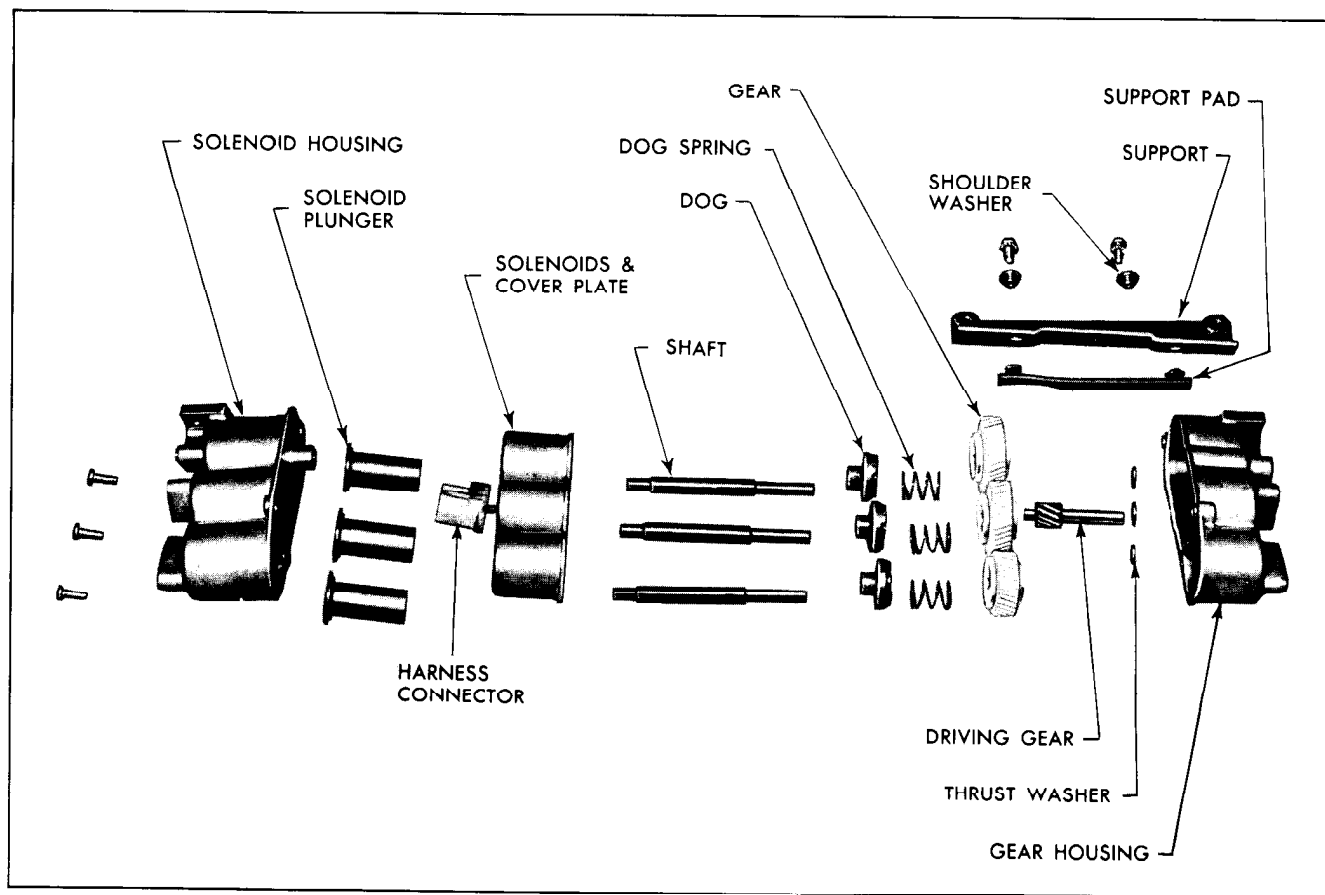

Fig. 17-75 Six Way Seat Transmission Assembly
3. Remove screws securing gear housing to the solenoid housing; then, carefully separate housings and remove component parts of transmission assembly. (Fig. 17-75)
4. To assemble transmission, reverse removal procedure. (Fig. 17-75)